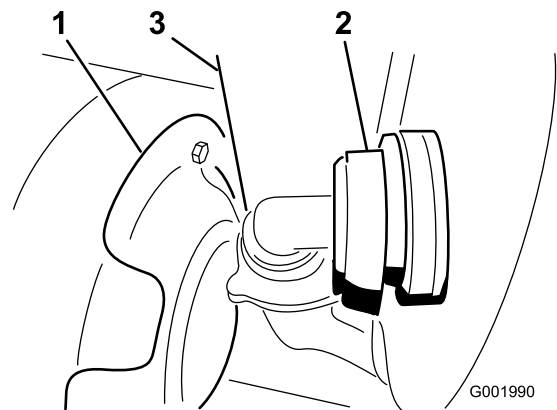

Figure 58
3. Disconnect the hose located on the lower-front face of the tank (Figure 58).
Note: You may need to push the heat shield (Figure 58) back as you remove the cover.
7. Connect the hose on the front of the tank (Figure 58).